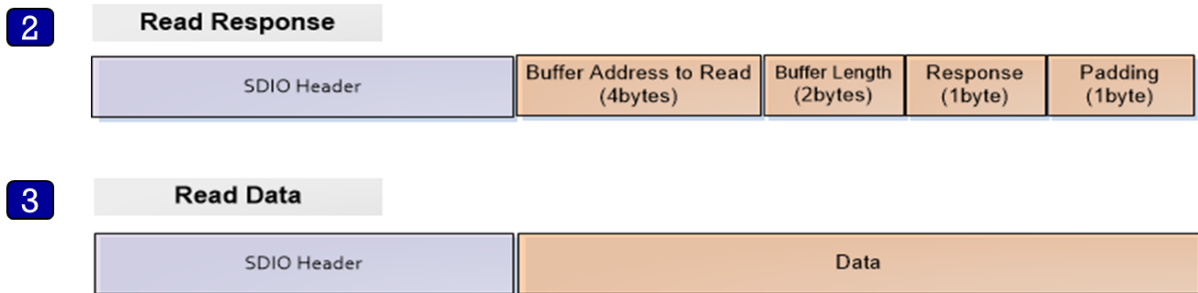

Figure 16: Structure
2. The Host reads the response message from Response Command address (0x50080258, blue rectangle in Figure 16), and parse it using struct `_st_host_response` (see Section 3.2.6).
3. The Host reads data from address (BUFF_ADDR) which is received from Slave in the response message (green rectangle in Figure 16).